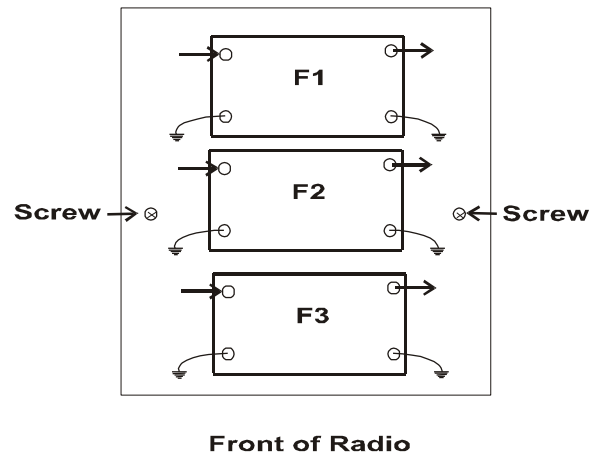

Figure 2.10-2 Filter Location Showing Ground orientation
8. Locate the F1, F2, F3 slot to insert the specific filter into. Refer to Figure 2.10-2. This is according to the Filter Cover, and not the circuit board text. The order is shown on the Filter Cover as F1, F2, F3 going from back of the rig towards the front of the rig. The ground pins are easily distinguished by the way the pins and outer case connect together. The ground pins will be inserted into the holes for that filter closer to the front of the rig. The text